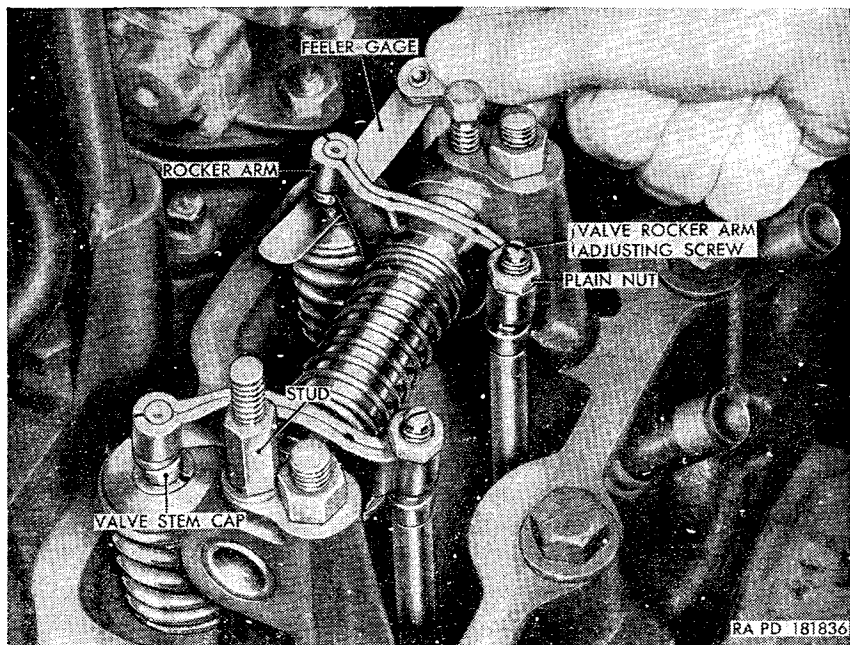

Figure 43. Checking intake valve clearance.
- (6) Unscrew the rocker arm cover elbow from the top of the cover.
- (7) Do not remove the two studs (fig. 43) from the two end rocker arm shaft brackets unless they are damaged. To remove the studs, unscrew them from the tops of the brackets and remove the internal-teeth lock washer from each stud.
- (1) If the studs (fig. 43) securing the rocker arm cover assembly were removed, install them. Using one $\frac{5}{16}$ -inch internal-
- (1) Remove the rocker arm cover assembly and gasket (par. 108a(1) through (5)).
- (2) Using a suitable socket wrench and extensions, turn the engine crankshaft, as necessary, to bring each intake valve in turn to the fully closed position. Check the valve clearance by inserting a feeler gage between the valve stem cap and the rocker arm (fig. 43). The valve clearance should be 0.018 inch.